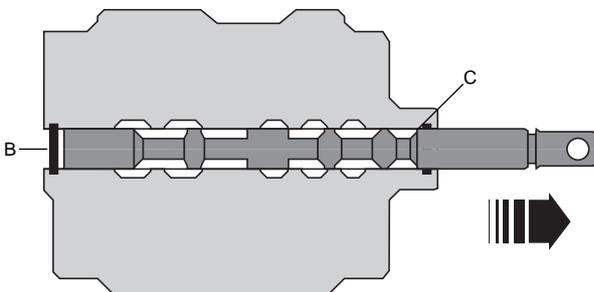

Fig 170.
- 2 ⇒ Fig 170. (E-208). Move the spool to the position shown and then install the O-ring **B**. It is important to note that the spool must not be moved beyond the position shown, otherwise the edge of the spool (face **C**) may damage the first fitted O-ring (item **A**).